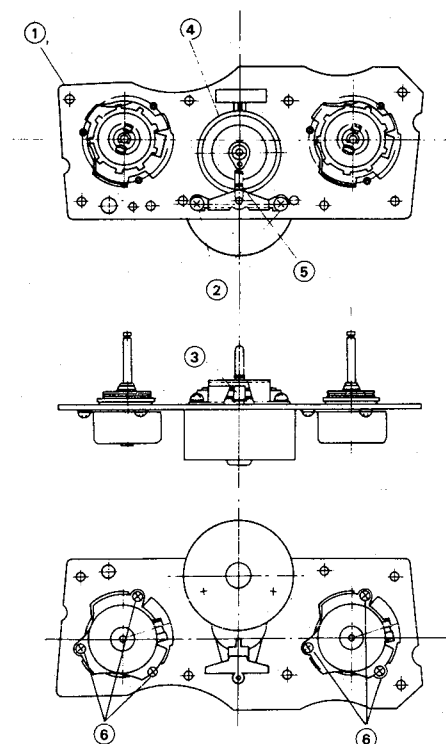

Figure 32.
- 1) Check that the reel idler ④ is securely attached to the reel chassis ① and that the reel idler engagement spring ⑤ is properly hooked on the reel idler.
- 2) While taking care not to damage the reel motor pulley ③, install a replacement reel motor with screws (XBPSD26P06J00) so that the reel motor terminal and spring hook angle are in the direction as shown in Fig. 32. (Use of longer screws will damage the motor.)
- 2) Move the reel idler to the center of the reel chassis as shown in figure 32, and then pulley slightly to the reel motor side to remove the reel idler.
shown in Fig. 32 using the three (XBPSD26P-04000) screws.